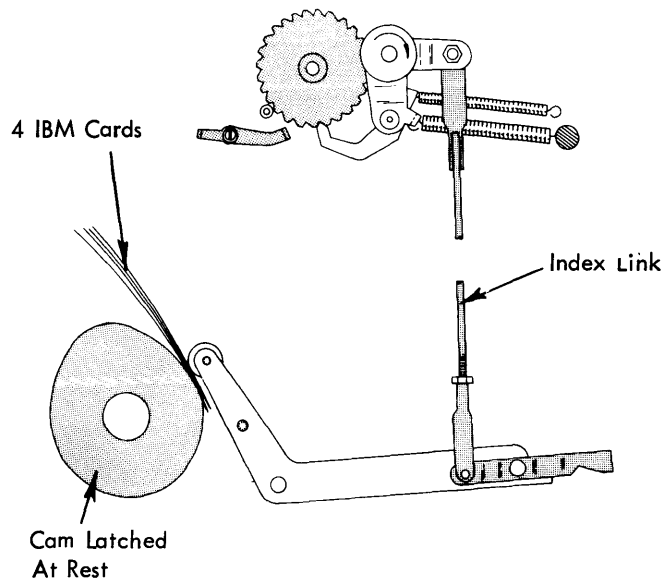

FIGURE 156. Index Link Adjustment
- b. With the index selection lever in the single line space position, adjust the index link so that the index pawl bottoms in the ratchet against a tooth after .030" rise on the index cam (Fig. 156). Half-turn adjustments may be made by disconnecting and turning the link at the top.
The cam rise may be simulated by leaving the cam latched in the rest position and placing four strips of IBM card stock between the cam and the cam follower (Fig. 156).